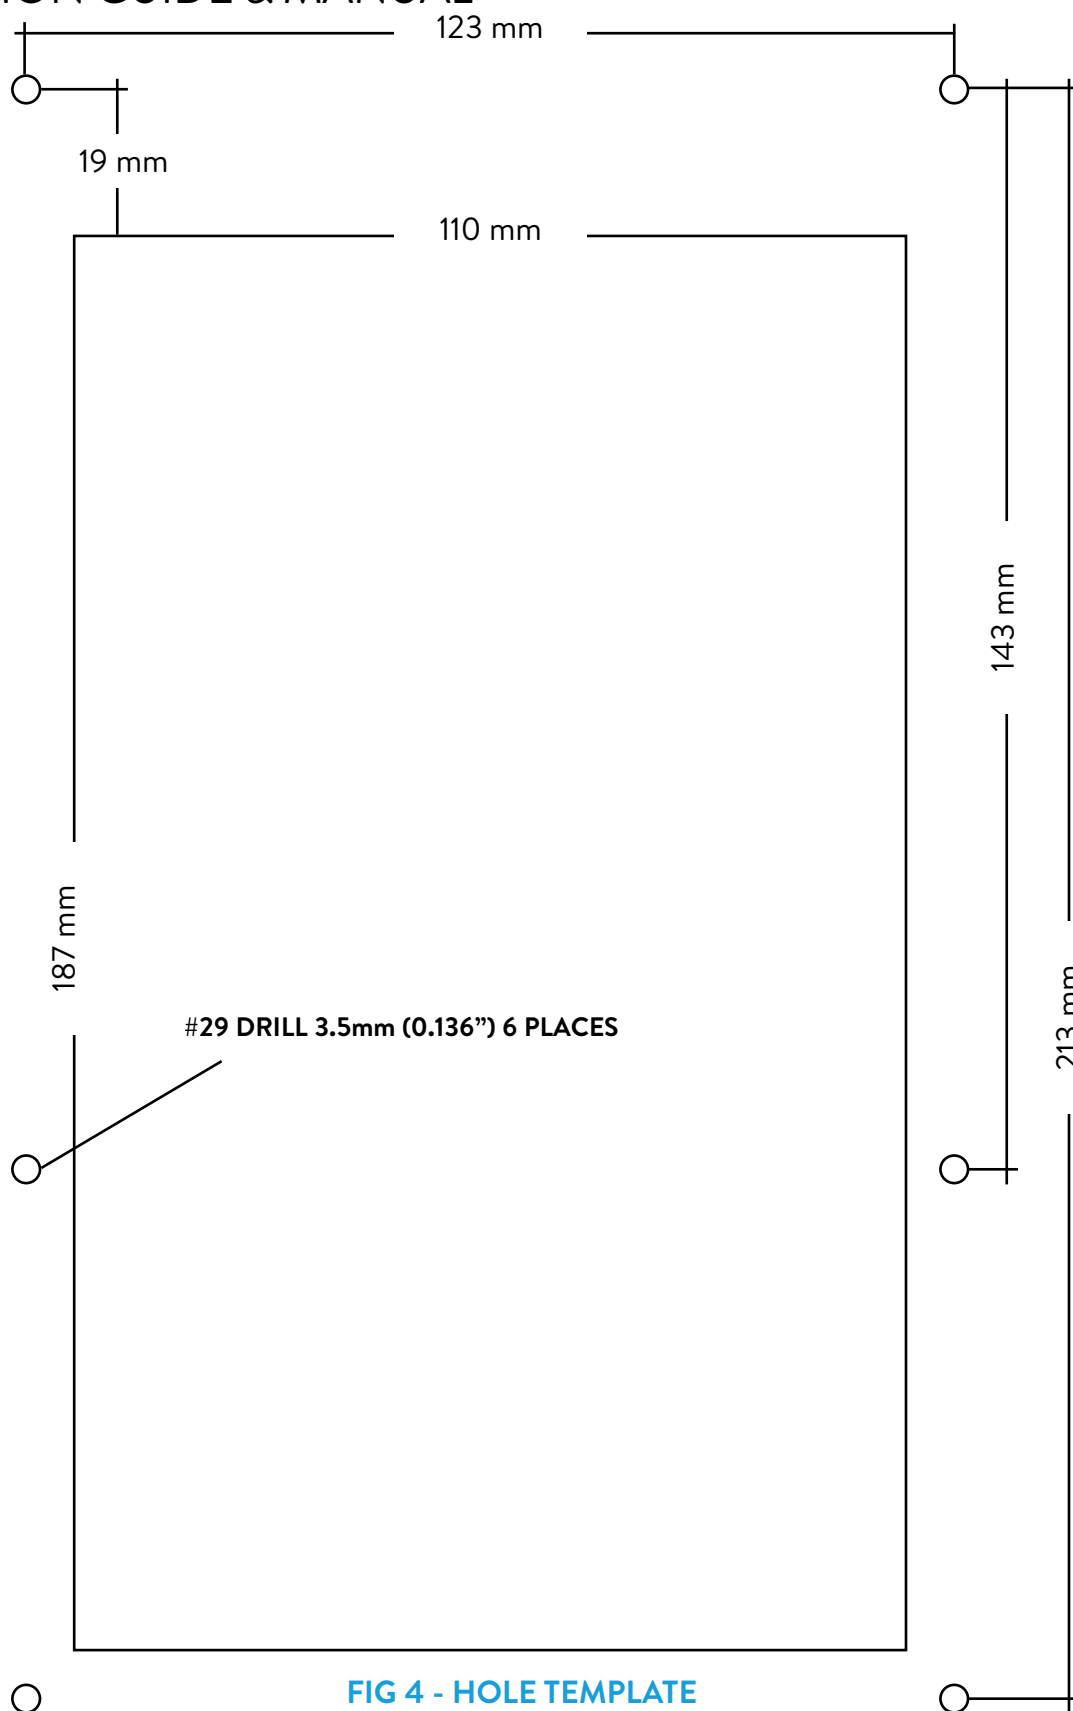

FIG 4 - HOLE TEMPLATE
3. Place the hole template (figure 4) in position and center punch in 6 places.